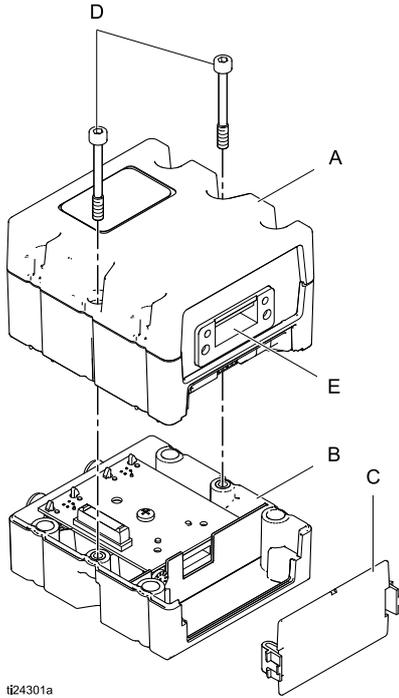

Figure 2 CGM, Access Cover, and Base
2. Remove access cover (C). Loosen two screws (D) and remove CGM (A) from the base (B). See Figure 2.